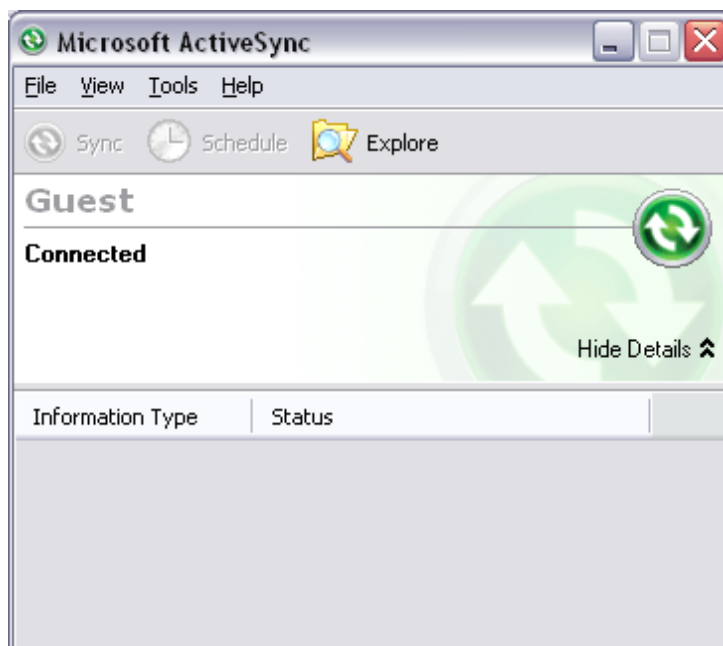

Figure 24 - Opening ActiveSync Connection (Step 2)
7) Select the option 'No' and press 'Next'. A confirmation window is then displayed as shown in Figure 24.